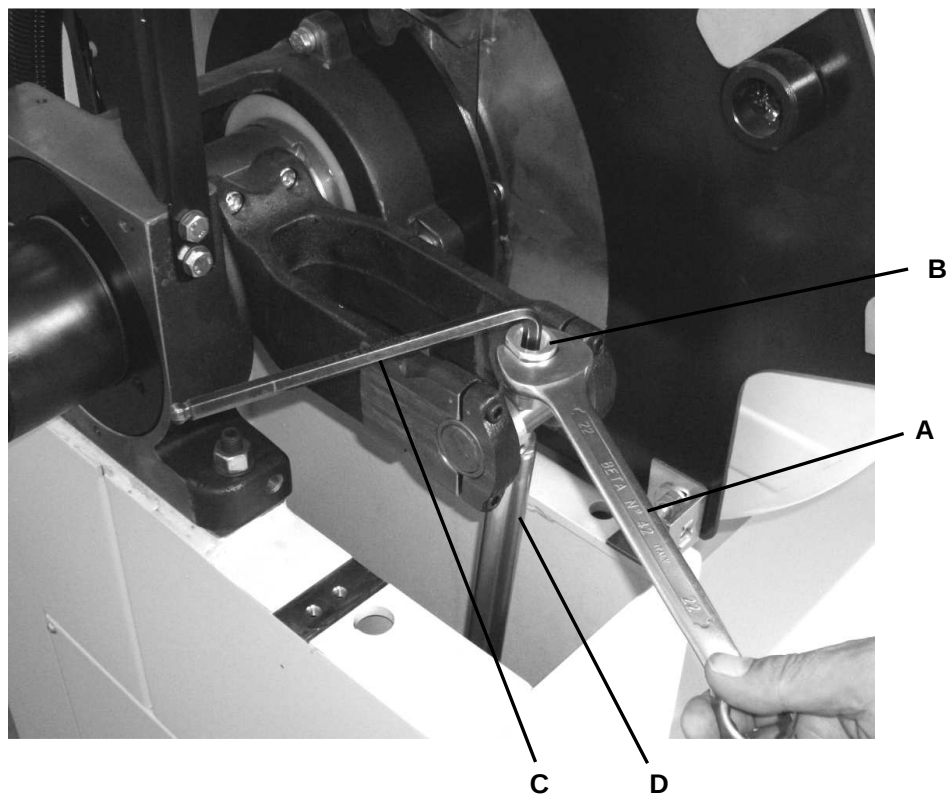

Fig. 09-07
- With spanner 'A' undo lock nut 'B', then, by turning Allen key 'C', adjust the position of cylinder rod 'D' (**Fig. 09-07**).
- Tighten lock nut 'B' - **Fig. 09-07** and check with a square that cutting takes place at 90°, if necessary, adjust the position of the cylinder rod again.